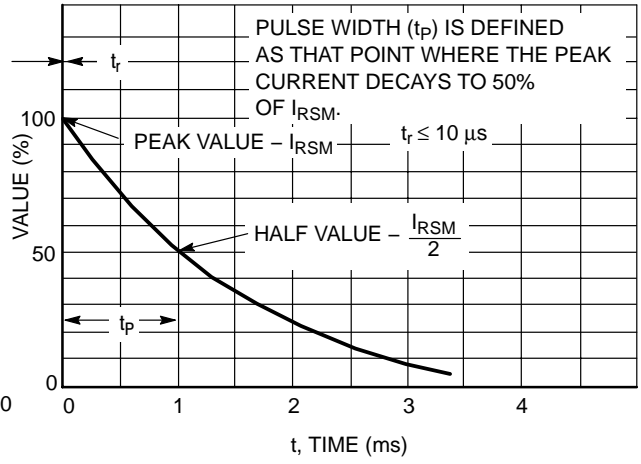
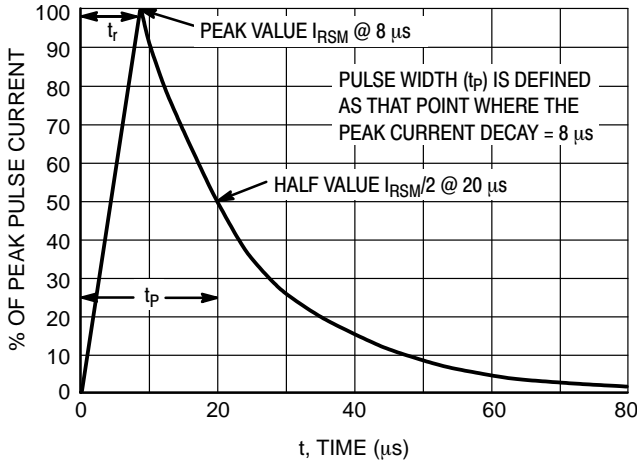

Figure 2. 10 X 1000  $\mu$ s Pulse Waveform
Figure 3. 8 X 20  $\mu$ s Pulse Waveform
1. Non-repetitive current pulse at  $T_A = 25^\circ\text{C}$ , per waveform of Figure 2.
2. Non-repetitive current pulse at  $T_A = 25^\circ\text{C}$ , per waveform of Figure 3.
7. Surge current waveform per Figure 2 and derate per Figure 3.